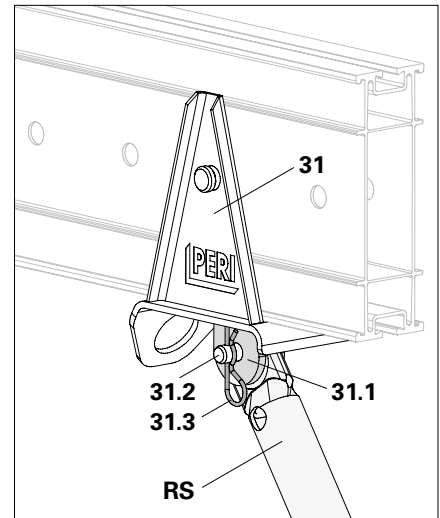

Fig. A8.02
- Connect Push-Pull Prop (RS) and connection lugs (**31.1**) with bolts (**31.2**) and cotter pins (**31.3**). (Fig. A8.02)